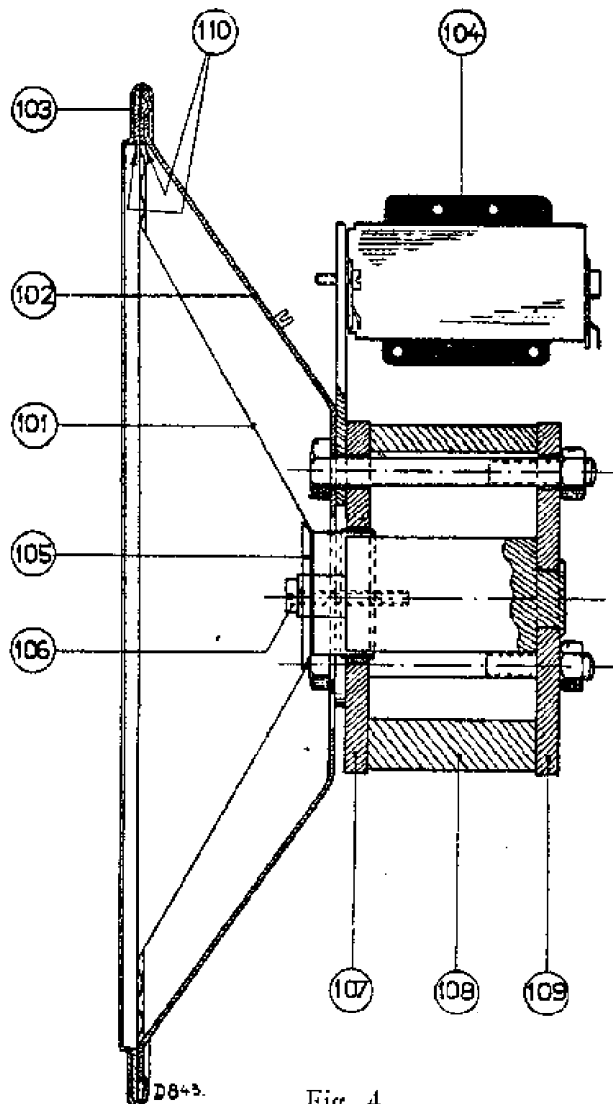

Fig. 4
2. Under no circumstances may the front and back plates (fig. 4, item 107 and 109) be removed from the magnet, as this would impair its magnetism (as would also be the case when working on an iron bench).